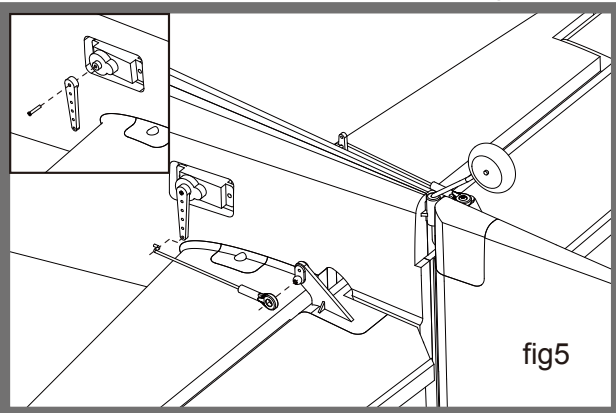

fig5
3. Install the elevator servo arms and linkage rods as shown in Figures 5 and 6.